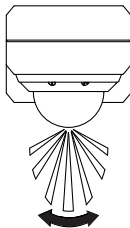

Fig. 1B
- The motion detector's monitoring area can vary slightly depending on the mounting height and mounting location, as well as on the ambient temperature. Before choosing an installing location for your motion detector, please note that the sensor reacts with greater sensitivity to movements across the monitored area (see Fig.. 1B) than movements directly toward the sensor or away from the sensor (see Fig. 1C).